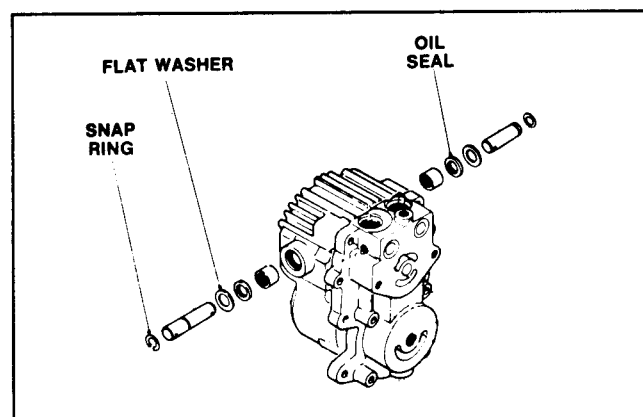

Figure 36
3. Remove the snap ring from the control shaft and slide the flat washer off of the shaft (Fig. 36). Using a seal puller, pull the seal out of the transmission housing. Do not mar or scratch the shaft.
7. Remove the snap ring from the end of the trunnion shaft (left-hand side) and slide the flat washer off of the shaft (Fig. 36). Using a seal puller, pull the seal out of the transmission housing. Do not mar or scratch the shaft.